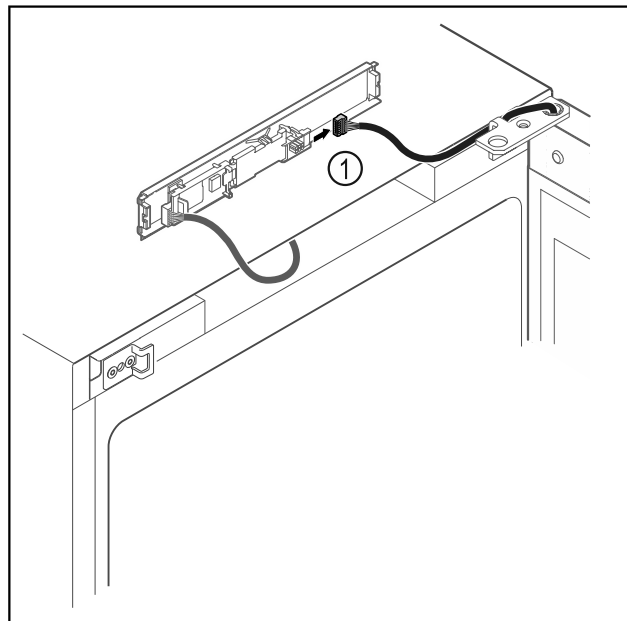

Fig. 18
- Disconnect the plug Fig. 18 (1) from the circuit board.